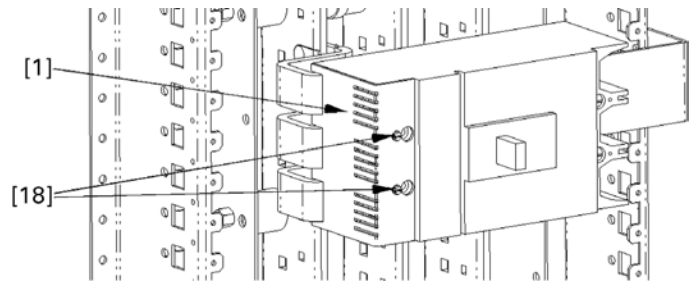

Figure 34. Installing the terminal cover on the breaker.
9. **Terminal cover installation.** Install the terminal cover [1] to the breaker with thread-cutting screws [18], as shown in Figure 34. A $\frac{3}{8}$ " x $\frac{3}{8}$ " relief hole must be made in the cover if the breaker is mounted as a main with an accessory cable (such as ground fault and communications) leaving the load end of the breaker.